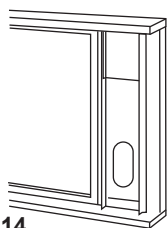

Fig. 14
3. Cut the foam seal (adhesive type) to the proper length and attach it on the top of the window. See Fig. 14.